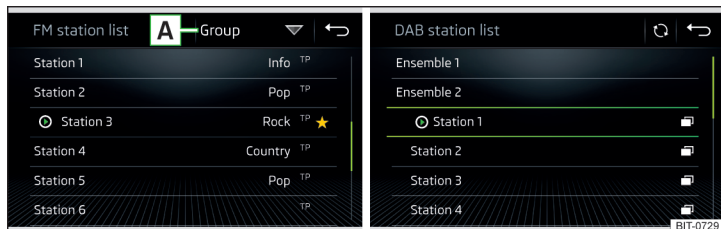

Fig. 184 Example, the list of available FM/DAB stations
- ▶ To **Sort** (FM) the stations in alphabetical order, by group or genre, tap on the function surface \mathbb{A} » Fig. 184 » $\mathbb{!}$.
- ▶ To **filter** the stations based on the program type (e.g. Music, Sport etc.) in the FM station list (with activated RDS function) and the DAB station list (with alphabetical sorting of the channel list selected), tap the function surface \mathbb{A} » Fig. 184.
- ▶ To **manually** update, the tap on functional surface \odot » Fig. 184.